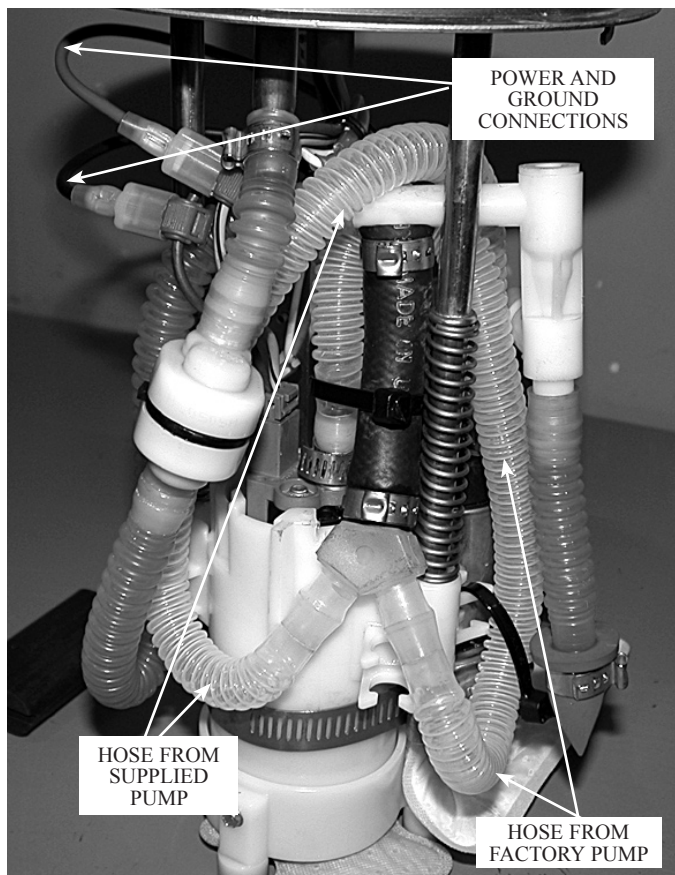

Fig. 13-h
- M. Secure all hoses to the fuel pump assembly using the supplied ties. Make sure the lid is able to spring up and down without restriction and that the hoses do not kink. (See Fig. 13-h.)
- N. Use the supplied T-splice and slide connectors to connect the black and red wires from the supplied pump to the corresponding power and ground on the factory pump. (See Fig. 13-h.)